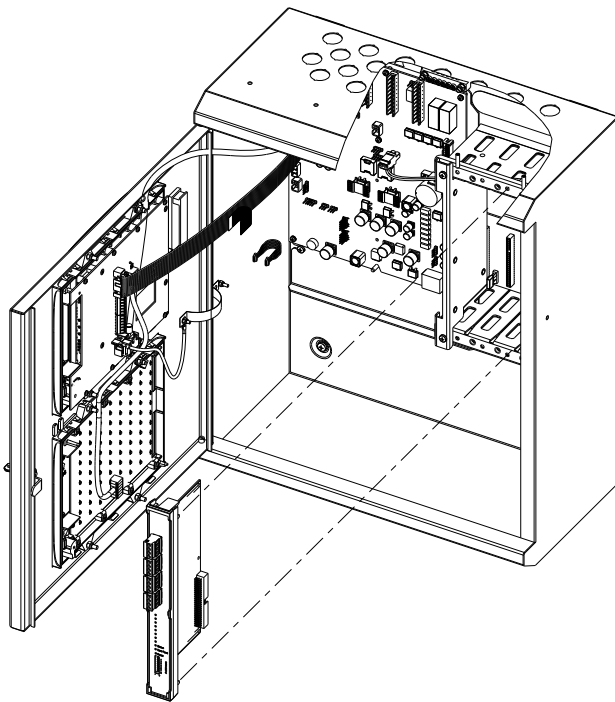

Fig. 22: Slot card installation
For a general impression of what is involved in mounting slot cards, see Fig. 22.
- 8 Insert the card into the appropriate slot in a slot card cage (see Fig. 22). This may be in the main panel housing, or in an expansion housing. See section "Obtain Slot Card Addresses" on page 29. Push the card firmly until it clicks into place.
- 4 Insert the card into the appropriate slot in the slot card cage (see Fig. 22). This may be in the main panel housing, or in an expansion housing. See section “Plan Slot Card Arrangement” on page 29. Push the card firmly until it clicks into place.